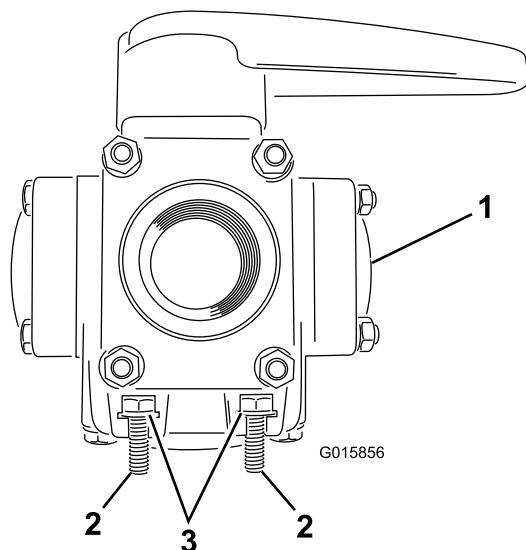

Figure 15
2. Insert 4 bolts (6mm) and 4 washers (6mm) into the slots of the four-way valve (Figure 15).